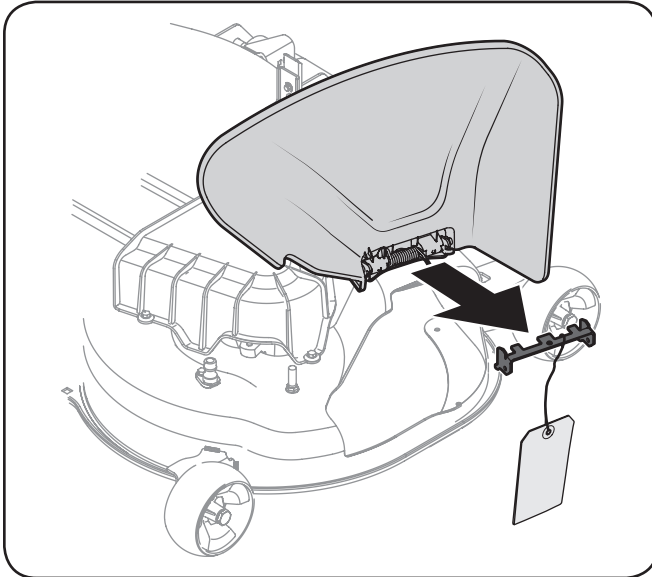

Figure 3-5
7. Holding the chute deflector fully upward, remove the shipping brace. Lower the chute deflector and discard the shipping brace. See Figure 3-5.